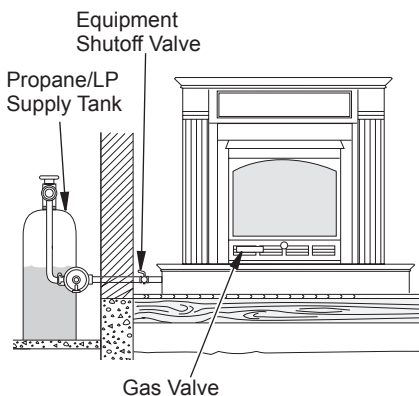
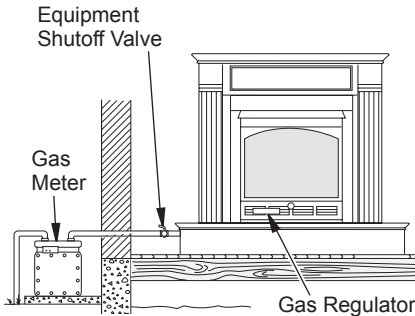

Figure 11 - Checking Gas Joints (Propane/LP Only) (actual fireplace may vary from illustration)
Figure 12 - Checking Gas Joints (Natural Gas Only) (actual fireplace may vary from illustration)
3. Check all joints from gas meter to equipment shutoff valve for natural gas or propane/LP supply to equipment shutoff valve for propane/LP (see Figures 11 or Figure 12, page 15). Apply noncorrosive leak detection fluid to all joints. Bubbles forming show a leak.
4. Check all joints from equipment shutoff valve to gas regulator (see Figure 11, page 14 or Figure 12). Apply noncorrosive leak detection fluid to all joints. Bubbles forming show a leak.